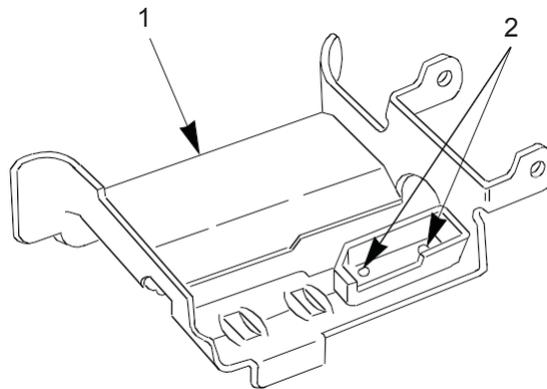

Figure 3. Feed Tray Assembly
3. Visually inspect feed tray assembly (Figure 3, Item 1) for burrs, cracks, bends and loose or missing rivets (Figure 3, Item 2). If damaged or worn, replace feed tray assembly (Figure 3, Item 1). If feed pawls are worn, remove e-clips, worn feed pawls, spring pawl, and pawl pin and replace.